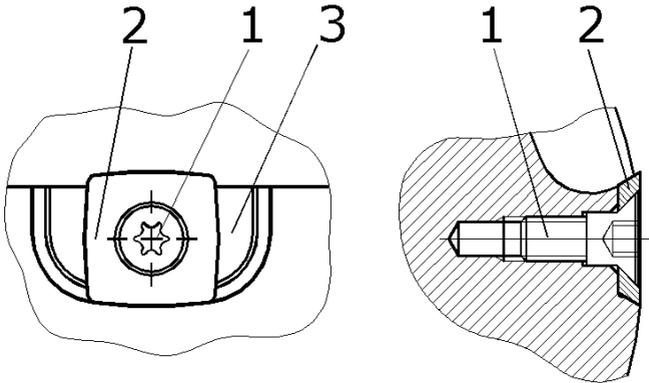
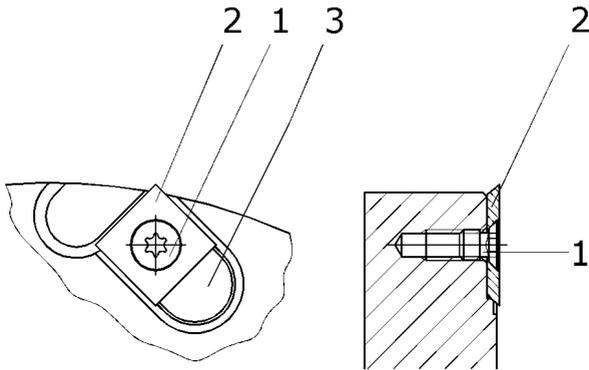

Fig.4
Fig.5
Spur knives are distinguished between the circumferential cutting type "CASTOR" (see Fig. 4) and the end-grain cutting types for rebate cutting (see Fig. 5).
(See Fig. 4)
(See Fig. 5 and 6)
2. Loosen the screw (1) with the Torx key and completely remove it from the knife seat.
3. Remove the spur knife (2) from the knife seat.
4. Clean the knife seat (3) and all of the corresponding components that go with it. Be sure all surfaces are free from dirt, oil, grease and water.
5. Insert precisely the reversed or new spur knife into the knife seat (see Fig. 5 and 6).